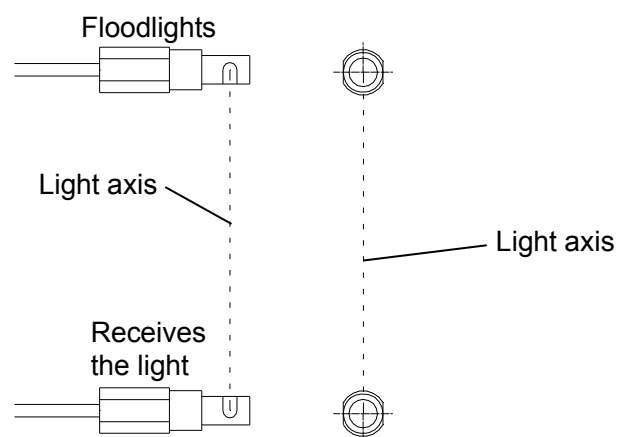

Fig. 3
2. Insert two stroke sensors with the O-ring to the part from which the air port cover etc were removed, and put the air port cover back with round head Philips screws (tightening torque: $0.125\text{N}\cdot\text{m}$ (Fig. 2). The one of the two stroke sensors floodlights and the other receives the light. Therefore, the stroke sensors must be inserted to the amplifier so that those two sensors' light axis can face to each other (Fig. 3). After inserting the sensors, insert optical fibers to the amplifier to adjust the amount of light.